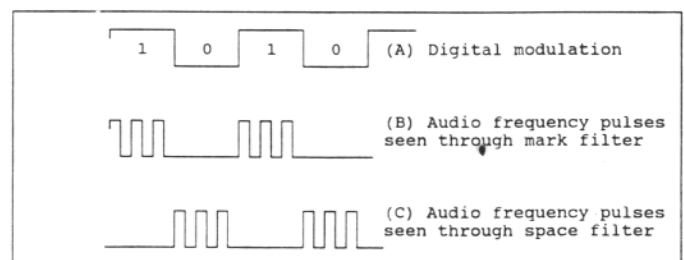

Figure 5. Summary of signals at various places in the discriminator. (A) The digital modulation, (B) mark, (C) space.
ing zeroes and one's (Figure 5 (A)) where each bit time represents one signalling element, i.e. a baud. Then for 100 baud rate, each signalling element duration would be 1/100 th second. A signal period as seen by each filter, though would be twice this duration, or only 50 Hz as shown in Figure 5 (B) and (C). The matched filter should thus only respond to these tone pulses that has a repetition rate of 50 Hz. It can be shown that such an idealized filter would require very steep skirts, i.e. nearly infinitely small band-edge transition zones. Approximating such a filter in DSP would also require an inordinately large filter order. Practical use of the demodulator relies on the ability of a human operator to "tune" to received tones. This implies that the design should include some degree of tolerance, however, too loose tolerances will degrade performance. The DSP filters used in this DSP demodulator is shown in Figure 6.